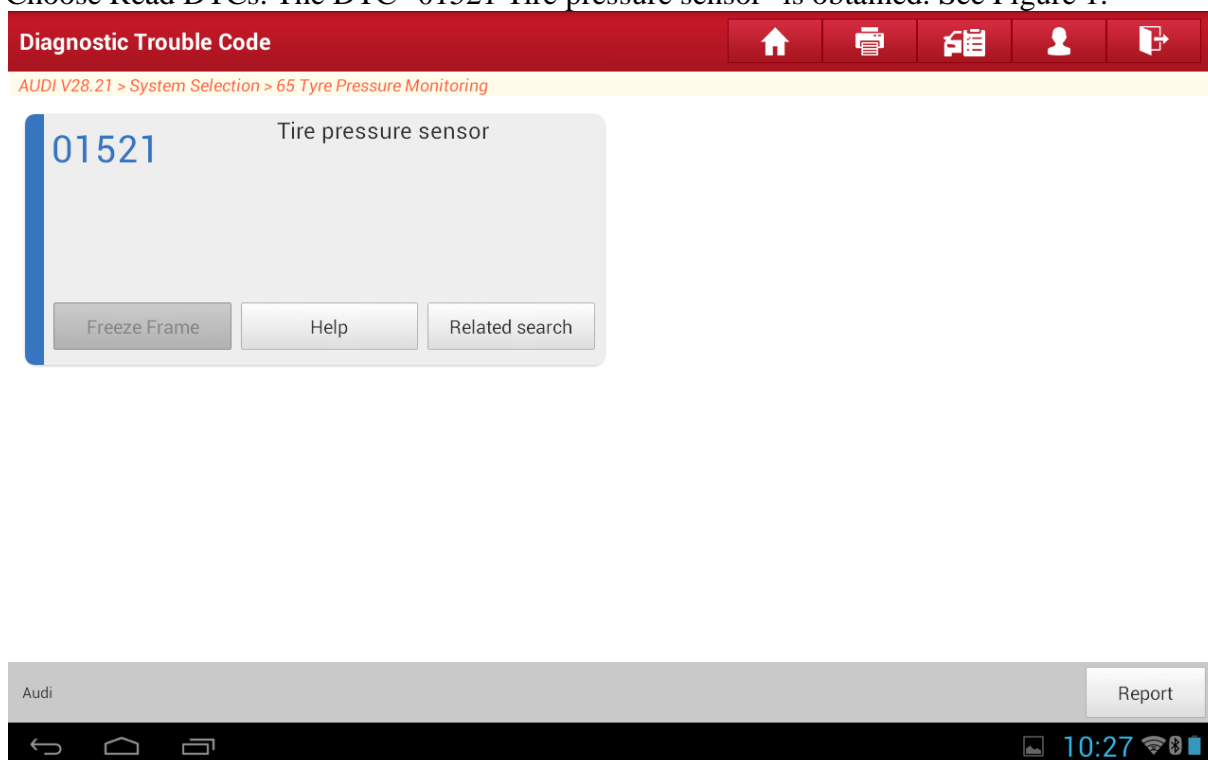

Figure 1
- 4) Choose Read DTCs. The DTC "01521 Tire pressure sensor" is obtained. See Figure 1.